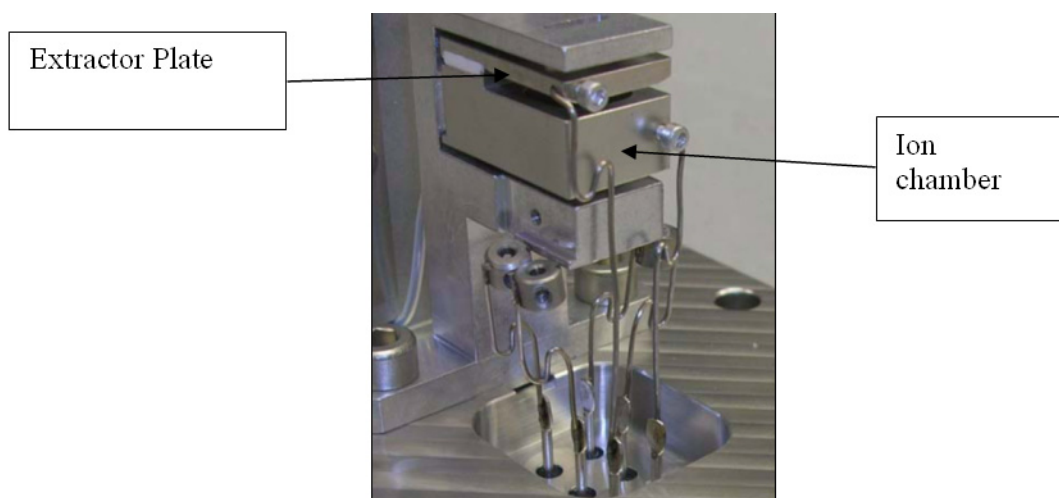

Figure 13: Extractor Plate
18. Insert the chamber and extractor wires into the ion support assembly (Figure 13: Extractor Plate).